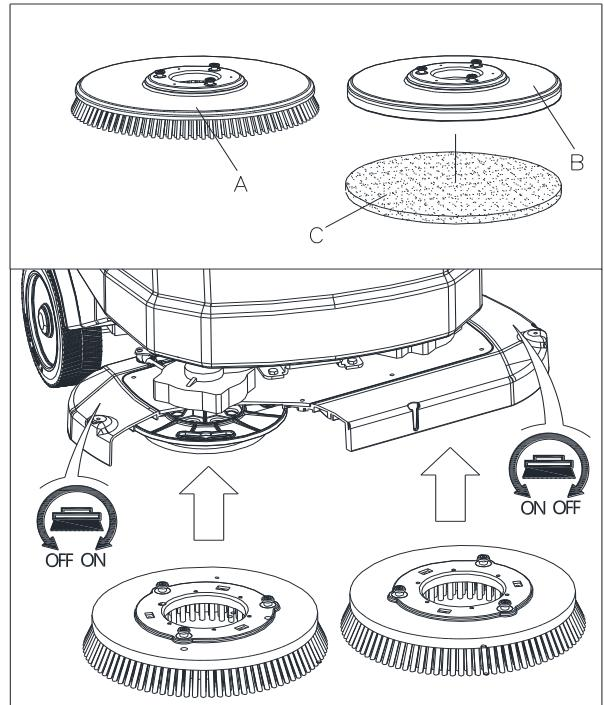

Figure 9
Install either the brush (A, Figure 9) or pad-holder (B and C, Figure 9) according to the type of floor to be cleaned.
2. Turn the speed adjuster (47) to idle by turning it counter-clockwise.
3. Place the brushes (A, Figure 9) or the pad-holder (B) under the deck.
4. Use the manual method by turning the brush/pad-holder in the direction opposite to the normal turning direction, and it can be installed. (as shown in Figure 9)